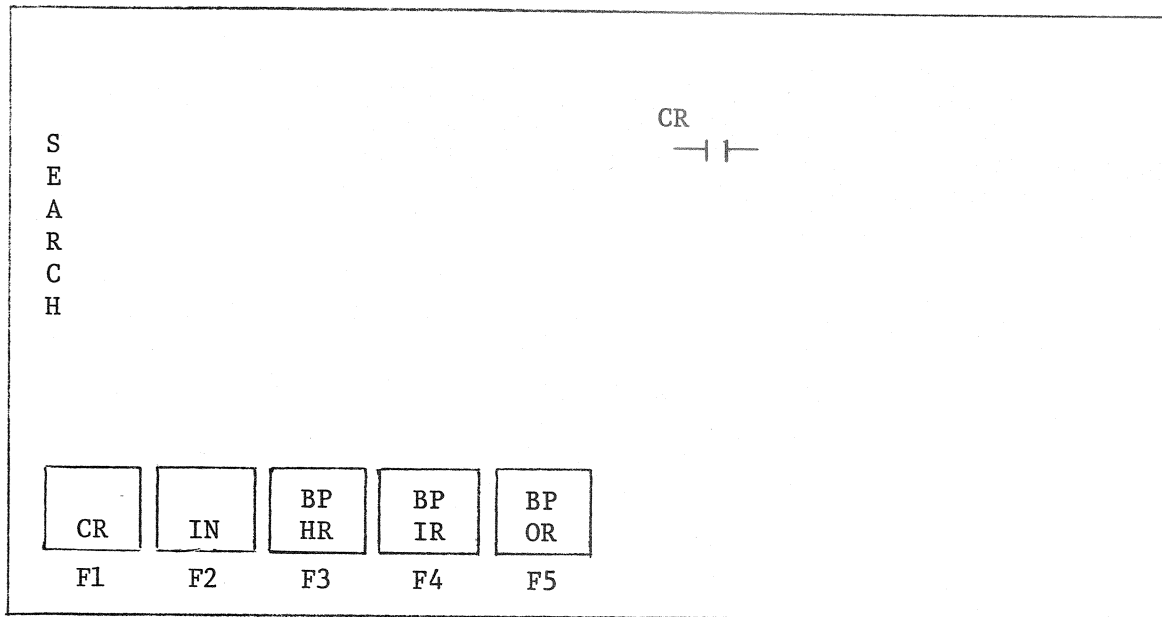

Figure 7-2. Search for Contacts Submenu
- F1/NO contact function key, or F2/NC contact function key, causes the menu shown in Figure 7-2 to be displayed. Select the type of contact by pressing